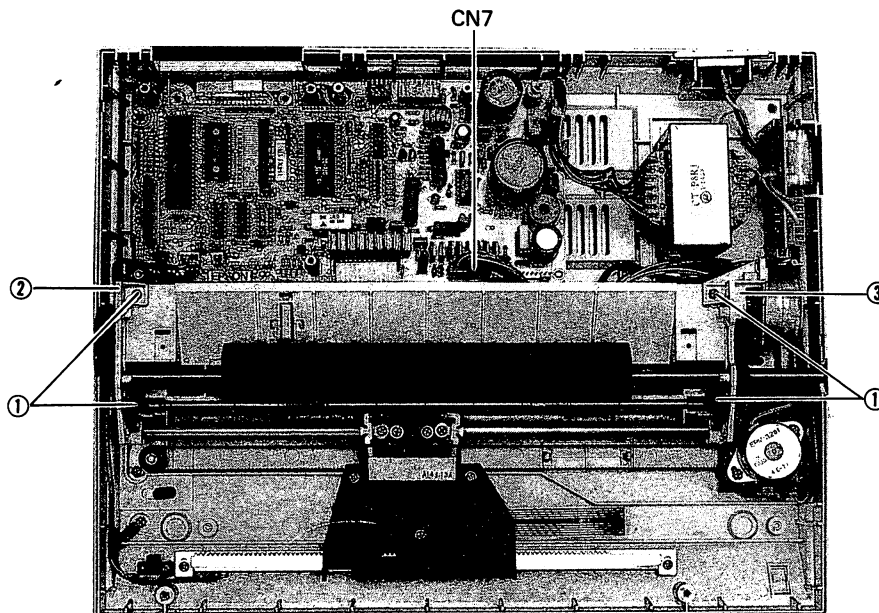

Fig. 4-10. Paper Feed Motor Removal
4.2.12 Paper Feed Motor Removal (Figs. 4-10 and 4-11)